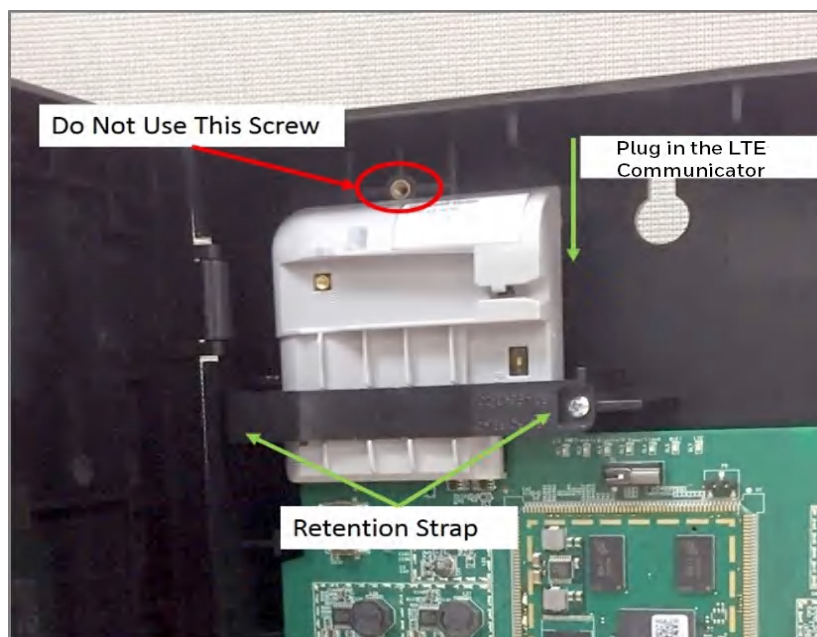

Figure 3.4: Installing the Cellular Module
2. On the top edge of the gateway, plug the cellular module onto the 40-pin expansion slot (see Figure 3.4).
WARNING: DO NOT USE THE SCREW ON THE TOP EDGE OF THE CELLULAR MODULE. IT WILL ADVERSELY AFFECT THE RADIO PERFORMANCE. REFER TO THE DO NOT USE THIS SCREW SHOWN IN THE FIGURE 3.4.
3. Secure the cellular module with the retention strap and a screw, which come with the module (see Figure 3.4).
2. Remove the retention strap screw and the retention strap (see Figure 3.4).